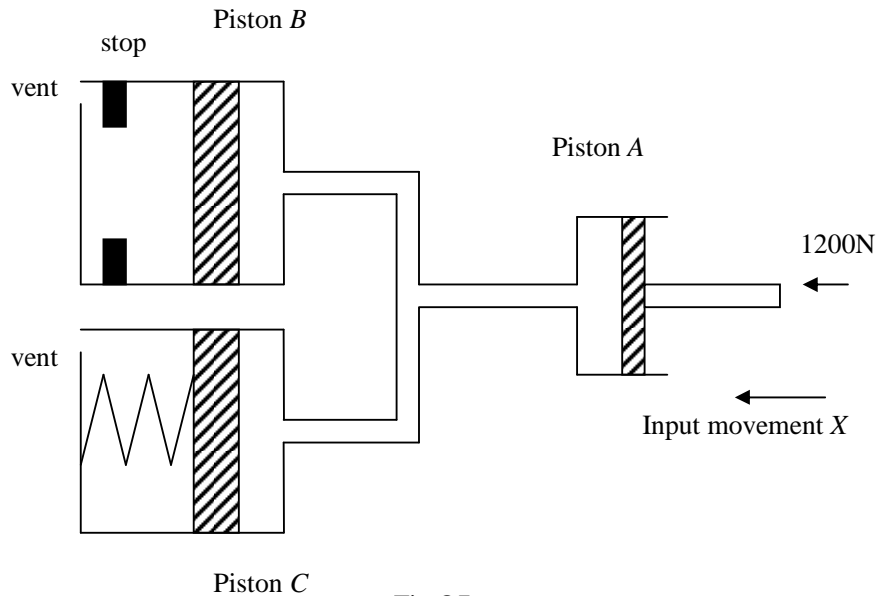

Fig Q7
7. A section of a hydraulic control system is shown in Fig Q7. The system is filled with an incompressible fluid. Movement of the input piston A causes the output pistons B and C to move. Piston C moves against a spring of stiffness 40kN/m. Piston B has no resistance to movement but reaches a rigid stop after 30mm travel. Piston A has a diameter of 40mm and pistons B and C are each 80mm diameter.